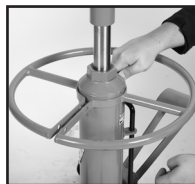

Fig.4
1. To assemble the Handle Assembly (4). Fit both halves of the Handle Assembly (4) around the top of the Pump Assembly (9) (Fig 4).